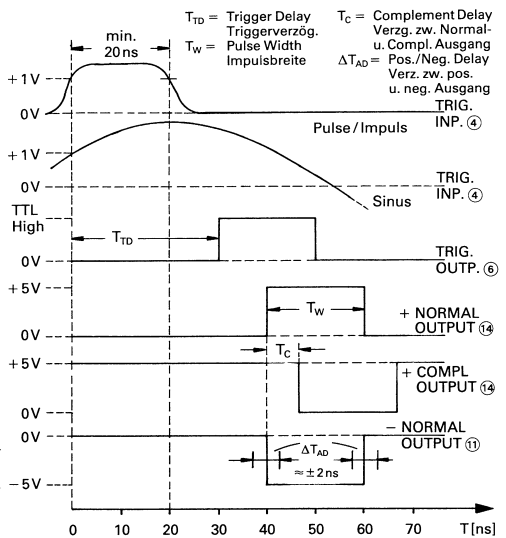

Fig 3 Output signals during external triggering
This example shows that a pulse duty factor of $\leq 99.999996\%$ can be obtained with minimum frequency (2 Hz) and pulse duration (200 ns). For circuit design reasons, normal and inverted pulses are offset against each other by a fixed time period of less than 10 ns (see fig. 3).
If the FREQUENCY switch (2) is set to MAN or EXT position, the internal pulse rate generator is switched off. In this case a signal applied to trigger input (4) determines the pulse repetition frequency of the output signals. As in normal operation, the pulse duration is adjusted with (9) and (8). However, the generator is no longer in symmetrical operating condition. The output signals are triggered with the rising, positive pulse edge. The trigger signal can consist of an AC voltage of $> 1V_p$ or of a rectangular voltage with an amplitude of $> +1V$. The input is TTL-compatible with "1" fan-in. The maximum input voltage can be $\pm 30V$. The minimum pulse duration should not be less than 20 ns. The trigger delay from trigger input to trigger output is about 20 ns (see fig. 3).